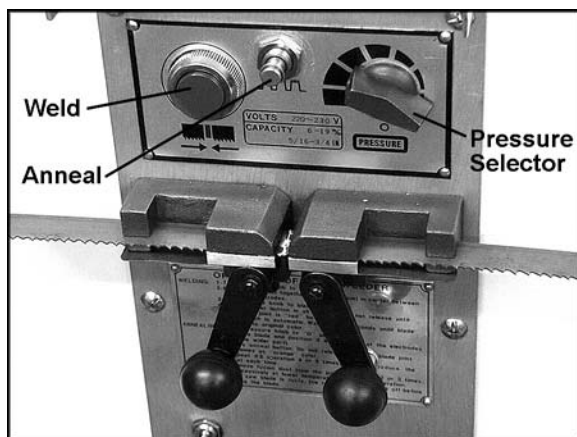

Figure 15
- Turn pressure knob (Figure 15) to “0” position (pointed downward). NOTE: There will be some resistance when turning knob.
- Press and hold weld button (Figure 15). When weld button is pushed, the left clamp moves to the right to apply pressure to the blade ends. Simultaneously, sparks will be emitted from the blade ends as they are being welded. Do not release weld button until blade joint is “red hot.”
- Quickly press and release (“jog”) the anneal button (Figure 15). Repeat jog process until you see a slightly red glow from weld area.